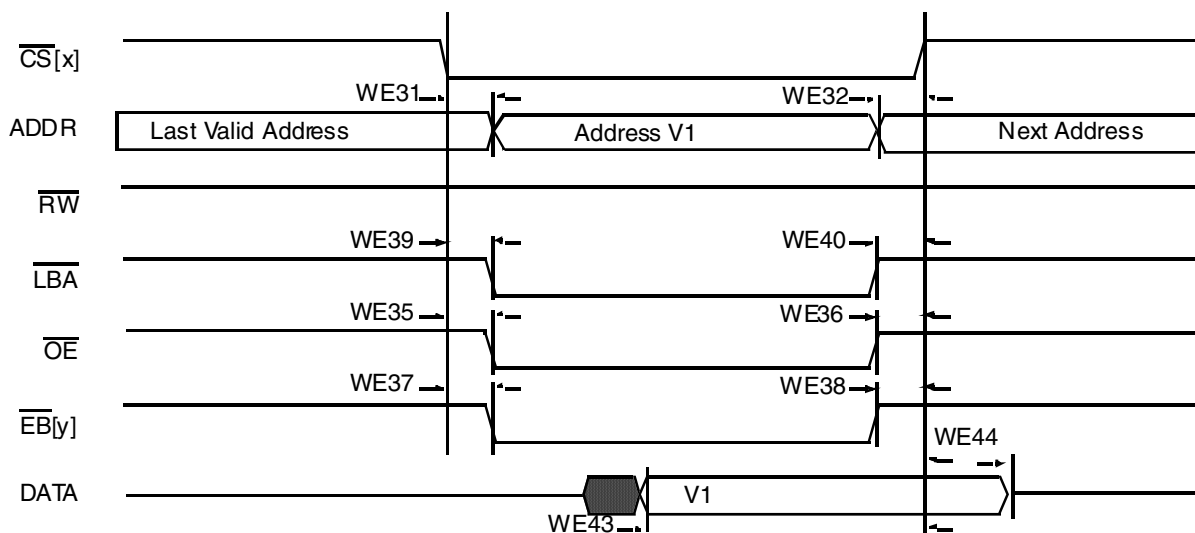
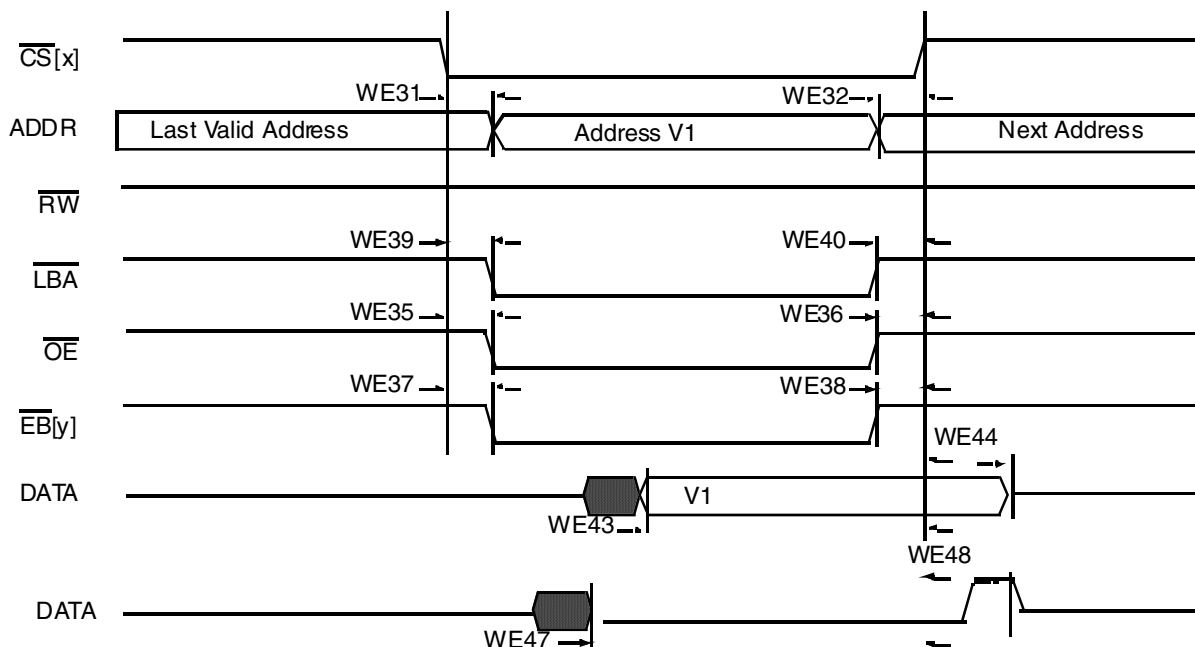

**Figure 22. Asynchronous Memory Read Access**
Figure 26. DTACK Read Access
Figure 22 through Figure 26, and Table 34 help to determine timing parameters relative chip select (CS) state for asynchronous and DTACK WEIM accesses with corresponding WEIM bit fields and the timing parameters mentioned above.